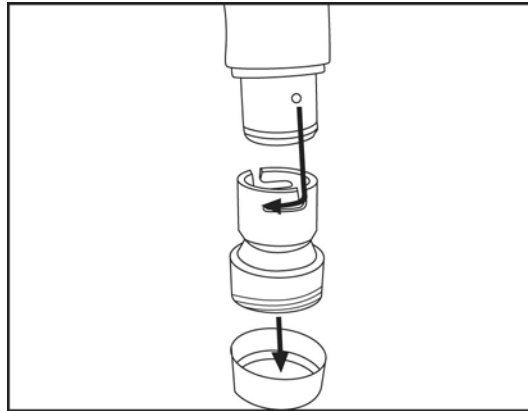

Fig: 5
2. If using a BT series breathing tube, first screw the 3M™ V-199 adapter into the outlet port of the GVP-100. Then attach the BT breathing tube to the adapter by inserting the tube end with two prongs into the top of the adapter. Twist the end of the tube to lock it in place (Fig.5).